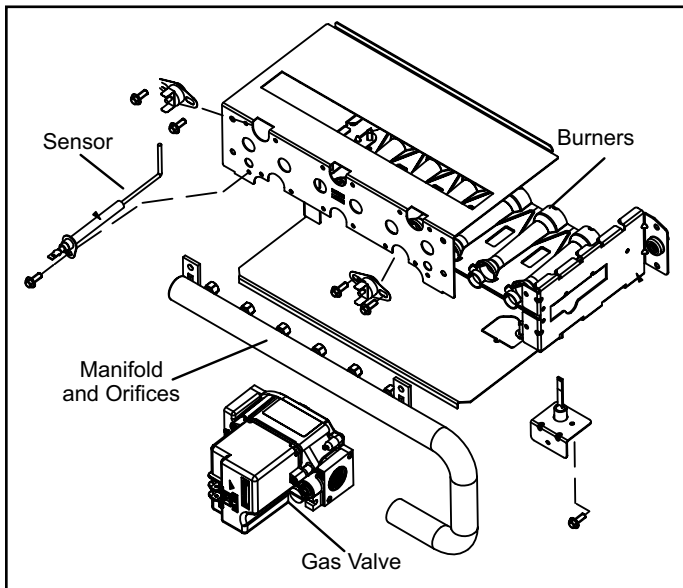
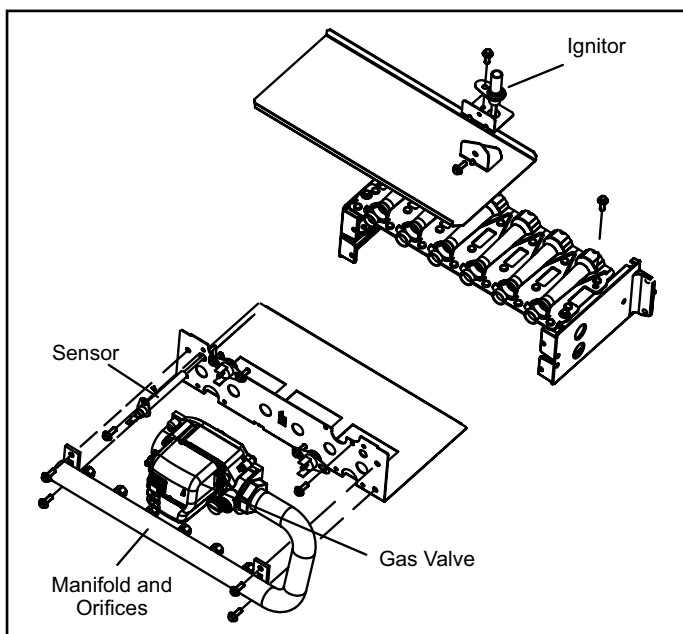

Figure 4. Manifold Gas Valve Assembly (BG921, BG951 & BG961)
Figure 5. Manifold Gas Valve Assembly (BG801)
5. Replace the burner orifices with the provided gas orifices. Torque to approximately 35 in-lbs. Do not use sealant on orifices. Figure 4 and Figure 5 show manifold/gas valve assembly.